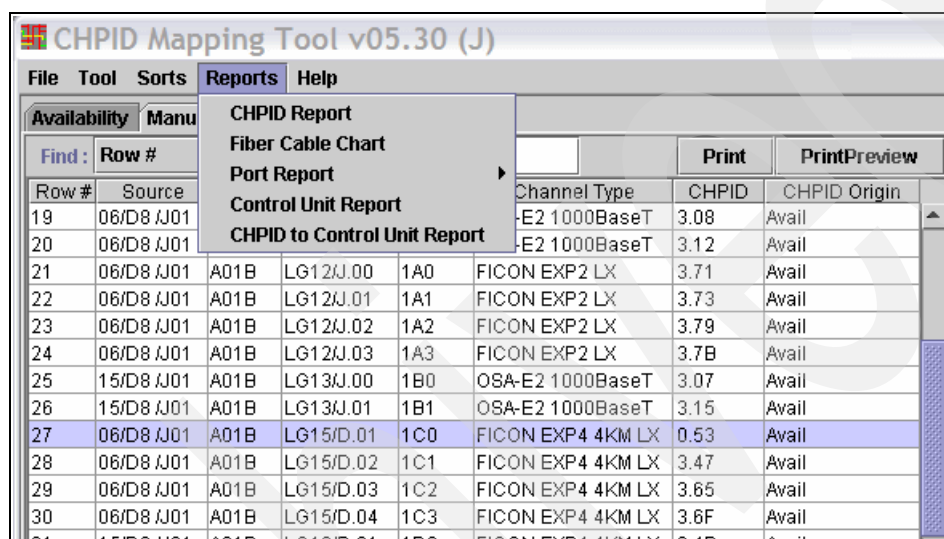

Figure 6-26 CMT - select CHPID Report
1. Click **Reports** → **CHPID Report** (Figure 6-26).